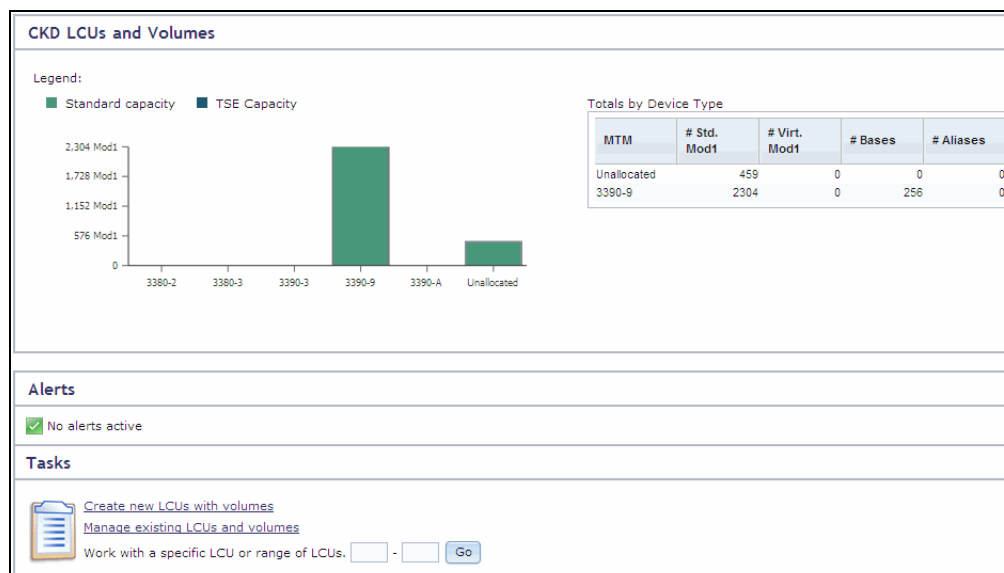

Figure 13-58 CKD LCUs and Volumes window
1. Hover over **Volumes** and select **CKD LCUs and Volumes**. The CKD LCUs and Volumes window shown in Figure 13-58 opens.